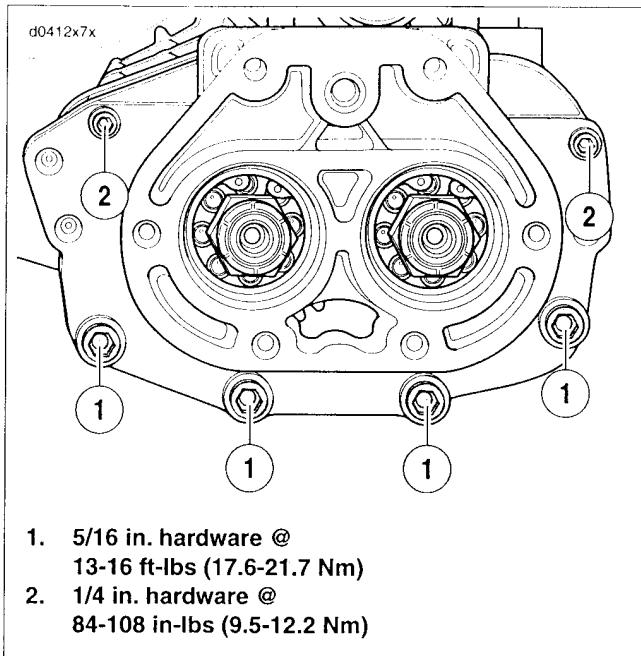
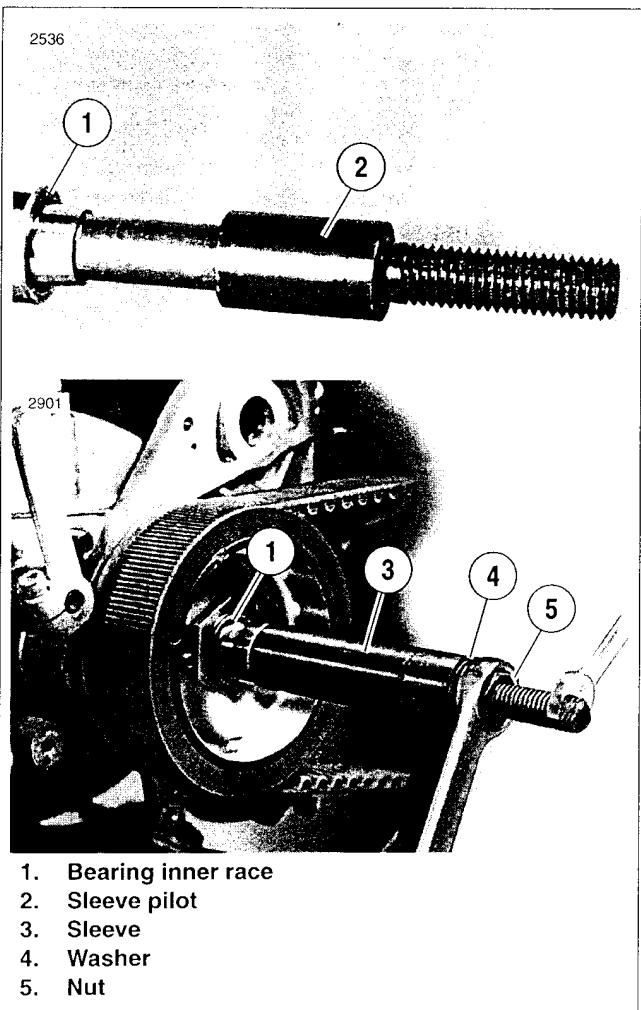

Figure 7-31. Transmission Mounting Hardware
Figure 7-32. Installing Bearing Race
- See Figure 7-31. Tighten all 5/16 in. hardware (1) to 13-16 ft-lbs (17.6-21.7 Nm).
- Tighten all 1/4 in. hardware (2) to 84-108 in-lbs (9.5-12.2 Nm).
- See Figure 7-32. The bearing race must be positioned on the shaft a precise distance to properly align with the bearing outer race in the primary chaincase. To install the bearing inner race, use those parts of the combination bearing race, PULLER AND INSTALLATION TOOL (Part No. HD-34902-B).
- Slide bearing inner race (1), chamfer edge first, onto mainshaft.
- Thread sleeve pilot (2) onto end of mainshaft (left hand thread).
- Position sleeve (3) over sleeve pilot (2) and against bearing race (1).
- Place washer (4) over threaded portion of sleeve pilot (2) and install nut (5).